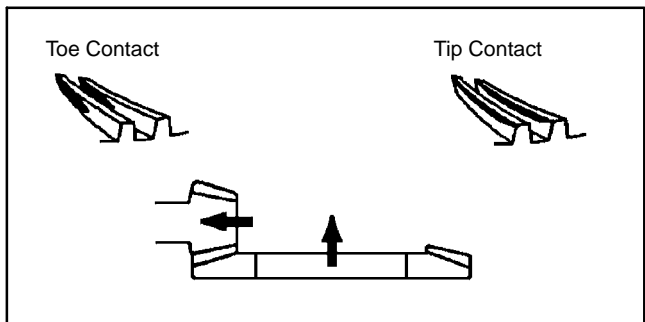

Figure 45
2. If contact is toward the toe or tip of the gear (Fig. 45):